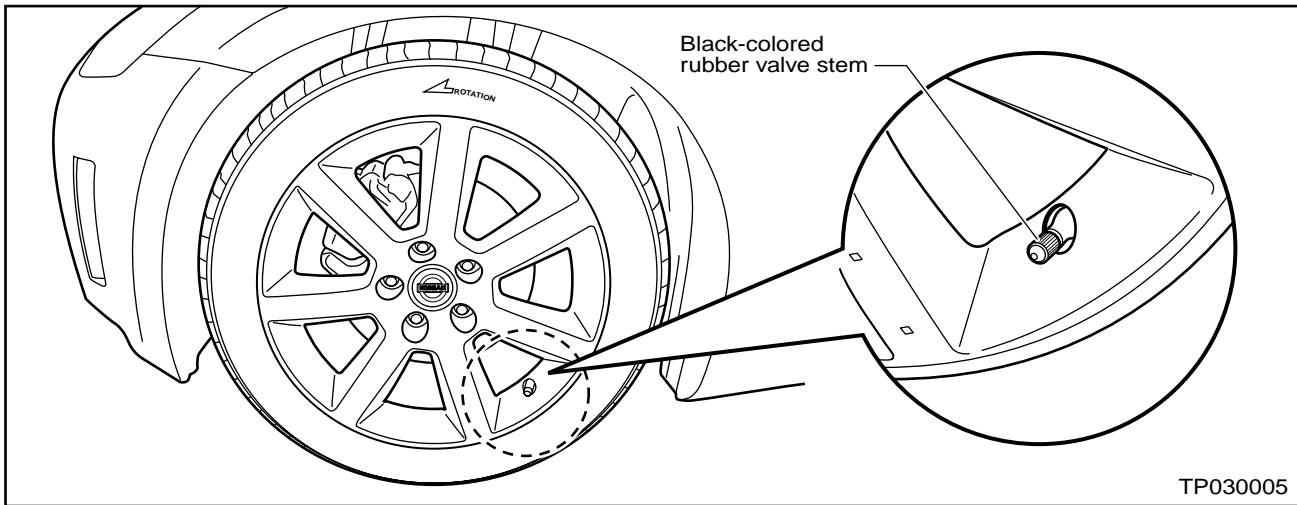

Figure 1
- A. If the valve stems are **black-colored rubber-type** (see Figure 1), go to Step 4 on page 5.